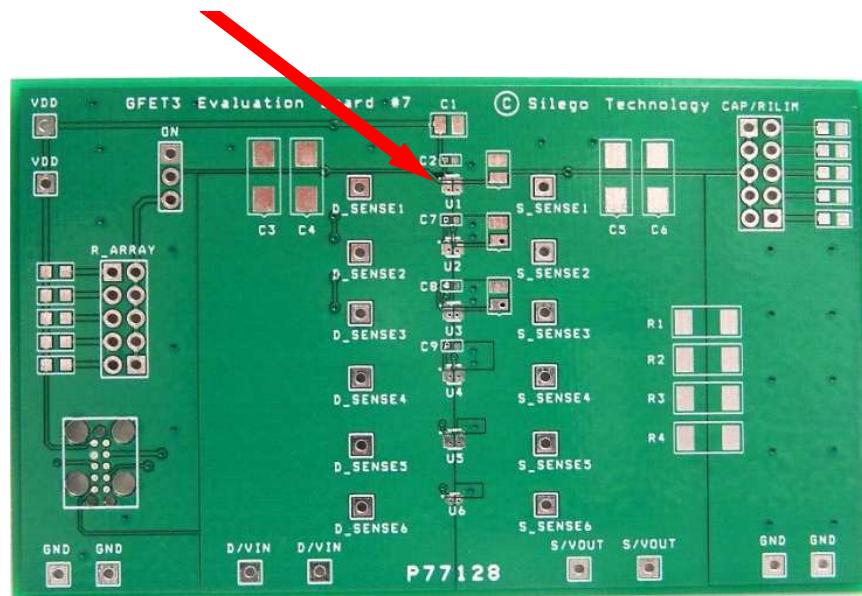

Figure 1. SLG59M301V Evaluation Board.
2. Since the D/VIN and S/VOUT pins dissipate most of the heat generated during high-load current operation, it is highly recommended to make power traces as short, direct, and wide as possible. A good practice is to make power traces with an absolute minimum widths of 15 mils (0.381 mm) per Ampere. A representative layout, shown in Figure 1, illustrates proper techniques for heat to transfer as efficiently as possible out of the device;
A GreenFET Evaluation Board for SLG59M301V is designed according to the statements above and is illustrated on Figure 1. Please note that evaluation board has D\_Sense and S\_Sense pads. They cannot carry high currents and dedicated only for RDSON evaluation.